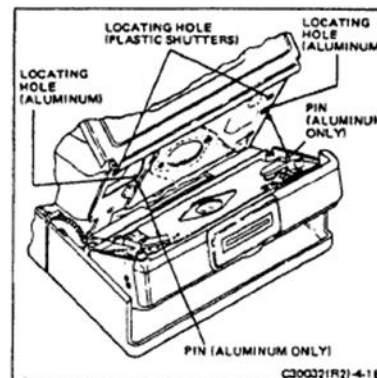

FIGURE 4-18 SHUTTER ASSEMBLY LOCATING PINS - ALUMINUM AND PLASTIC BASE SHUTTERS
8. Align the shutter locating pins with their holes (Figure 4-18) and install the four mounting screws.